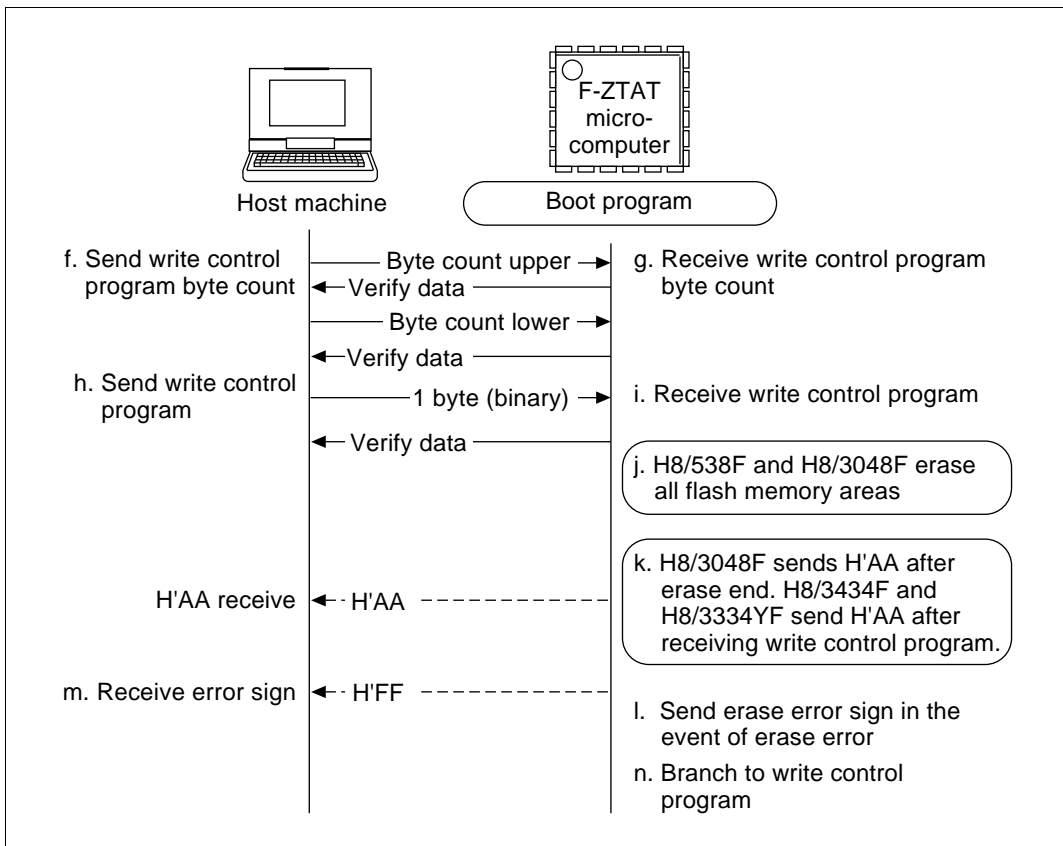

Figure 2.17 Write Control Program Transfer Processing (2)
Figure 2.17 shows program/erase control program transfer processing (2).